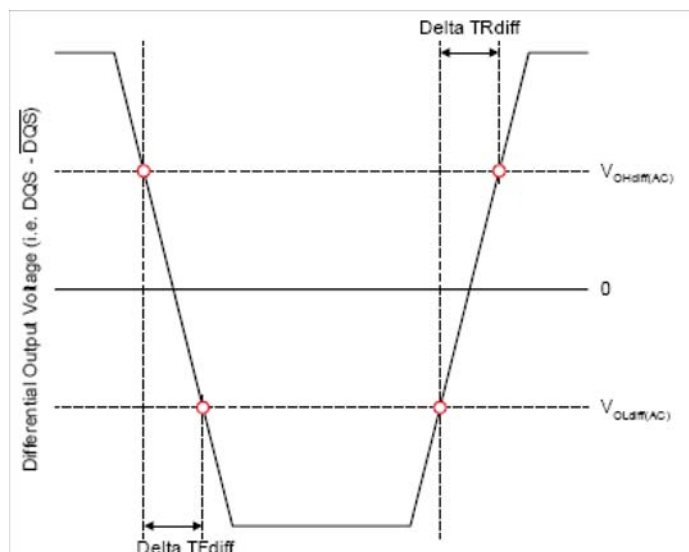

Figure 93. Differential Output Slew Rate Definition
With the reference load for timing measurements, output slew rate for falling and rising edges is defined and measured between VOLdiff(AC) and VOHdiff(AC) for differential signals as shown in Table 30 and Figure 93.